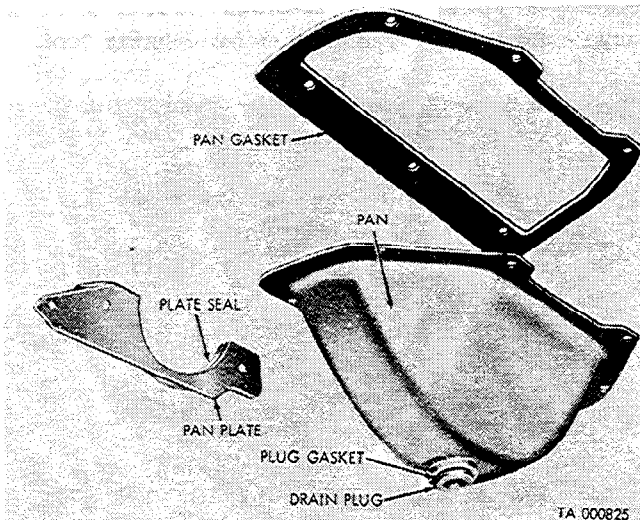

Figure 2-159. Clutch housing pan and pan plate (late type).
2-138. Clutch Housing Pan and Pan Plate (Fig. 2-159)
a. *General.* Design changes in the clutch housing pan and pan plate provide a change in the pan-drain plug and the pan plate seal. The drain plug in the clutch pan on early vehicles is a pipe plug, while the drain plug (fig. 2-159) for pans on later vehicles is of a different type and is provided with a gasket. The clutch pan plate on early vehicles has two seals riveted to the plate, while the plate on later vehicles has a one-piece seal cemented to the plate. Removal and installation procedures are the same for both types of pan and plate.
(1) Remove the four bolts and lockwashers that secure the pan plate to the front side of the clutch housing and remove the plate with seal.
(2) Remove the six bolts and lockwashers that secure the pan to the clutch housing, and remove the pan and pan gasket.
(3) Remove the drain plug from the pan. If a